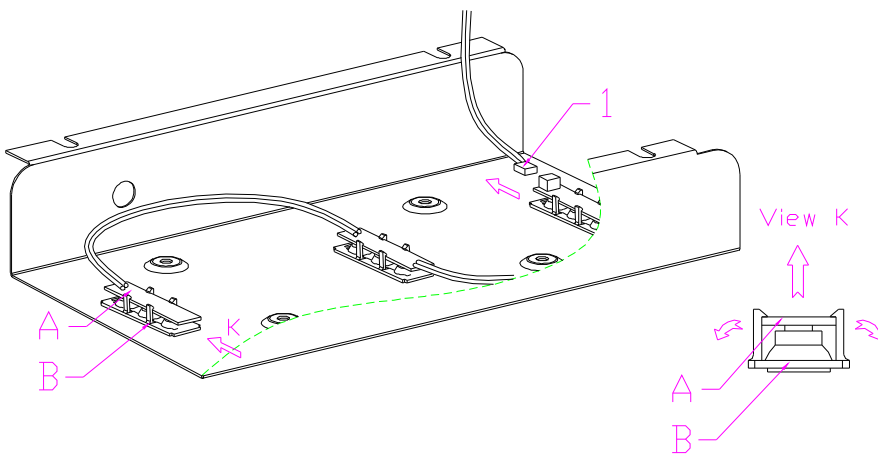

Fig. 15
- 2>. Then you will see the LED light is divided in to 3 parts, then pull out the line (1)follow the arrowhead's heading; (Fig.15)
- 3>. Pull out fasteners of the LED installed board (B) follow the View K point 1, at the time peak up the LED light board(A), then change the LED light board.